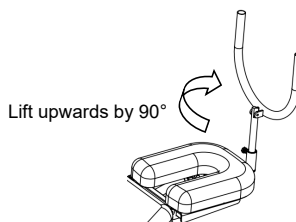

Figure 14
- The U-shaped arm support can be lifted upwards by 90° (Figure 14).